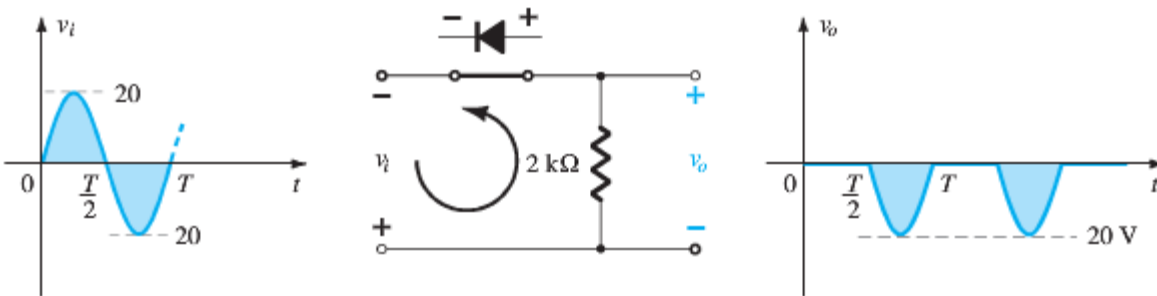

FIG. 2.50
- In this situation the diode will conduct during the negative part of the input as shown in Fig. 2.50, and v_o will appear as shown in the same figure. For the full period, the dc level is
Effect of V_K on output of Fig. 2.50.